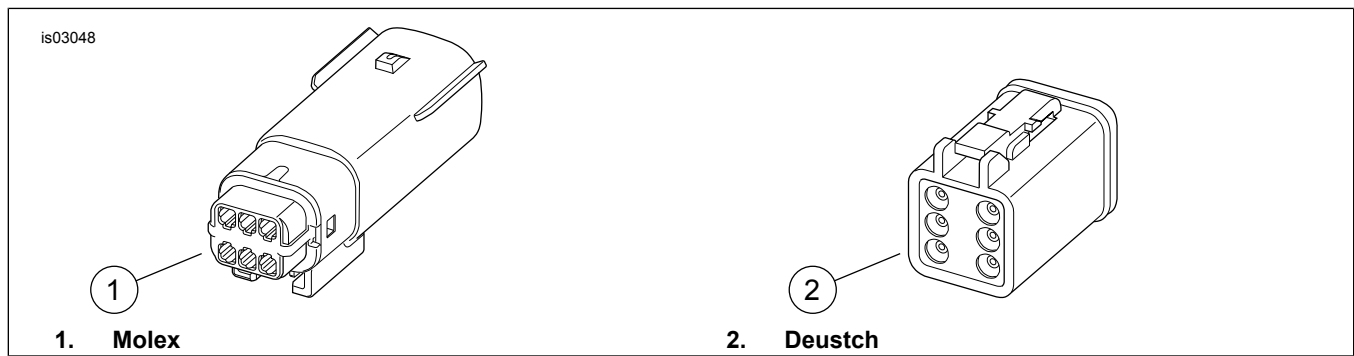

Figure 1. Hand Control Connectors
5. See Table 1 and Figure 1 to determine appropriate connector and terminals based on vehicle model and year.